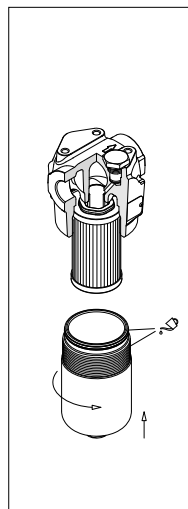

fig. 5
- (Fig. 5) Lubricate the thread and the O-Ring of the bowl, then screw the bowl in referring to the tightening torque table in paragraph 3